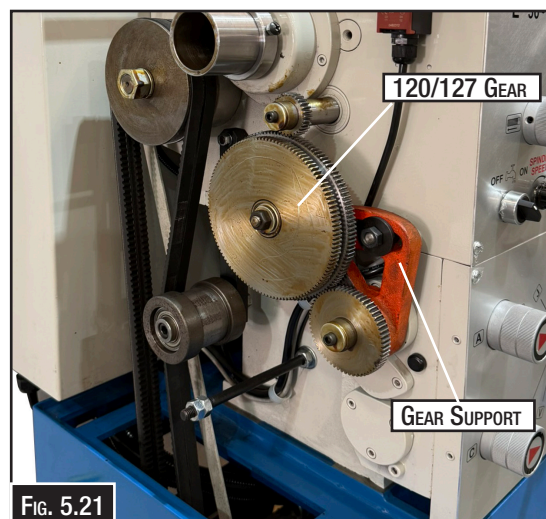

FIG. 5.21
4. While holding the 120T/127T gears, loosen the arm by undoing the gear support hex nut and slowly let the gears pivot down and away from the upper top gear, as illustrated. (Fig. 5.21)
5. Loosen the 120T/127T gear hex nut and slide the middle gear away from the bottom gear. The 120T/127T gears may need to be reversed. Undo the 120T/127T gear hex nut (Fig. 5.21) and reverse the gears.